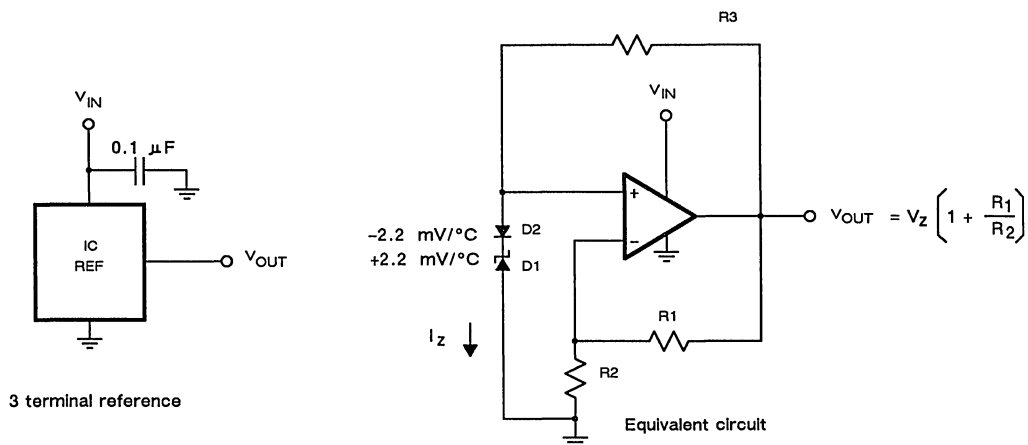

Figure A2. IC Reference
Zener diodes that breakdown in the 6-V range exhibit the best performance with very low TCs (+2 mV/°C) and relatively low sensitivity to current changes. They can be compensated by a  $V_{REF}$  (-2 mV/°C), as shown in Figure A2.
**IC References.** Monolithic ICs provide a more accurate reference (Figure A2). These devices usually include a temperature-compensated Zener diode driven by a constant-current source or a bandgap reference and a buffer output amplifier. These references provide an accurate output voltage that is virtually independent of input voltage, load current, temperature, and time. They provide voltage capabilities from 1.22 to 15 V with voltage tolerances from 0.05% to 5%, drifts of 0.5 to 100 ppm/°C, and current ranges from 400  $\mu$ A to 200 mA.